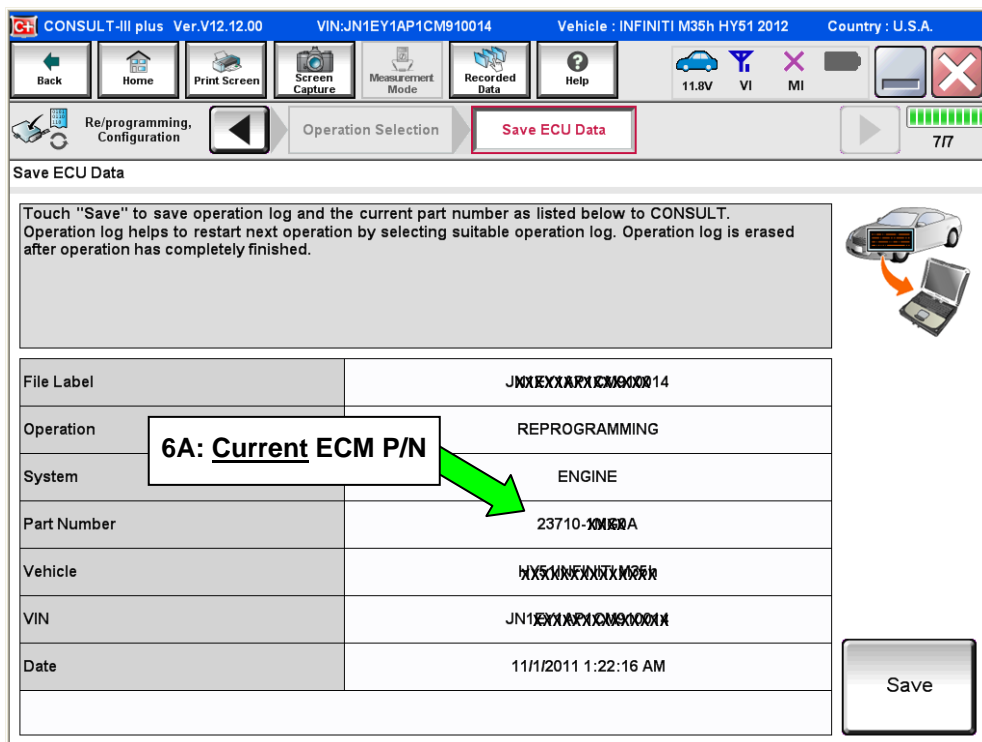

Figure 2
- Follow the on-screen instructions and navigate the C-III plus to the screen shown in Figure 2 on the next page.
6. When you get to the screen shown in Figure 2, confirm this bulletin applies as follows.